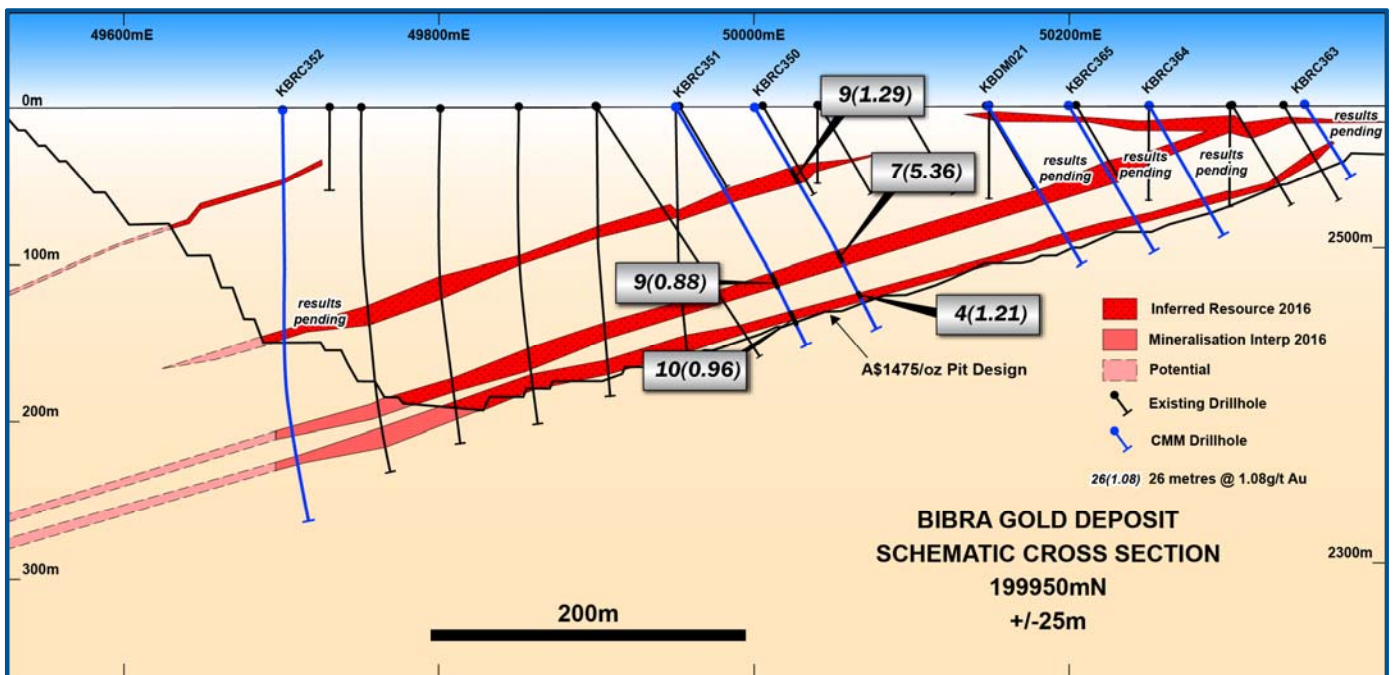

Figure 4: BIBRA GOLD DEPOSIT SCHEMATIC CROSS SECTION (199950N)
- Significant high-grade mineralisation was intersected by KBRC350, which returned an intercept of 7m @ 5.36 g/t Au within the current Bibra pit design, but with no drill-holes testing up-dip for 135m (refer Figure 4).